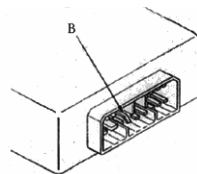

Fig. 4-4
7. Before connecting interfaces, make sure the terminal (B) locates at its origin, free from bending or other distortion; regarding some multihole interfaces, make sure the socket is filled with grease (waterproof interface excluded). (Fig. 4-4)